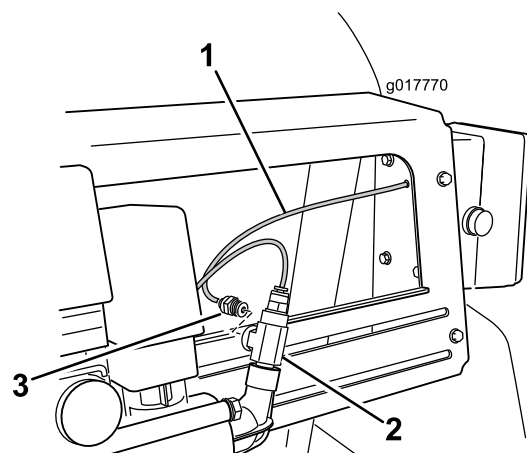

Figure 7
3. Locate the red, pressure gauge tube coming from the back of the control box and install it to the opening in the tee fitting (Figure 7).